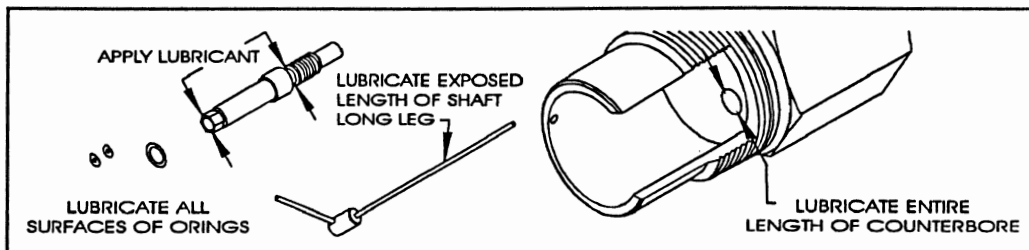

Figure 23. Lubrication application
- As shown in Figure 23, apply lubricant to the following:
- Internal Counterbore and External Groove of item 3 Guide.
- Offset Counterbore of item 37 LLS Body.